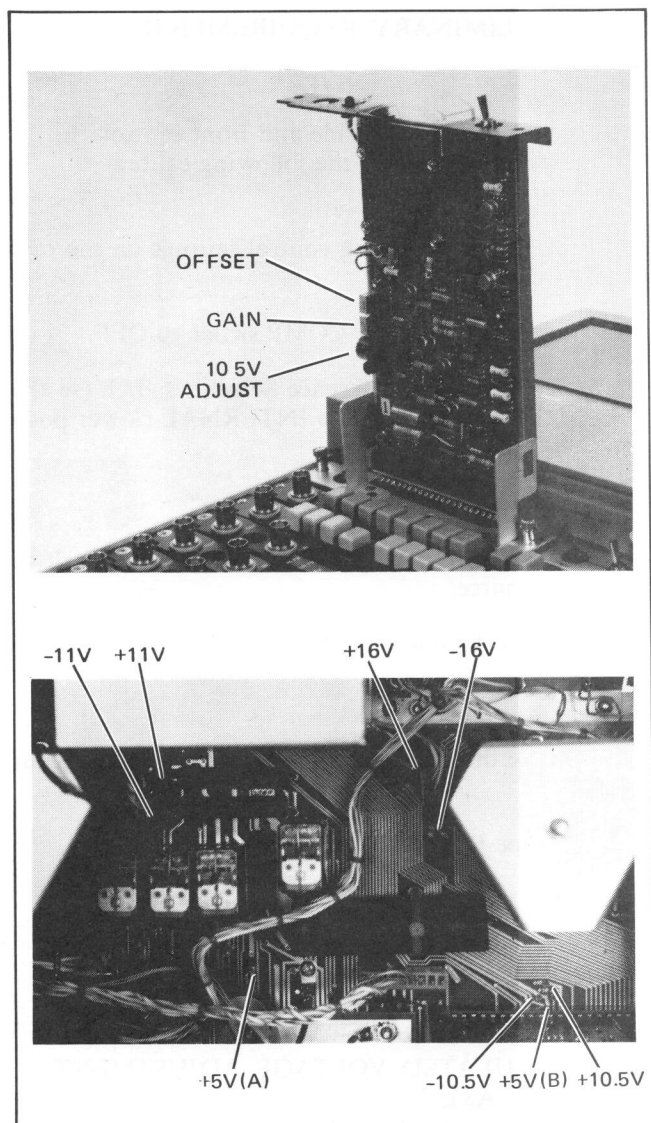

Figure 5-15. Regulated Voltage Test Points and Adjustments
b. Remove the Meter Amplifier PCA A3. Install its extender board, 03968-60960, into the machine. Plug the meter amplifier into the extender (see Figure 5-15).
g. Measure the +5A and +5B voltages at their respective test points on the Interconnect PCA (see Figure 5-15). Verify that each is within the range of +5.06V to +5.18V.
- b. Remove Meter Amplifier PCA A3 (see Figure 5-15).
l. Adjust the GAIN trimmer on Meter Amplifier PCA A3 (see Figure 5-15) for a reading of 0 dB on the lower meter scale.
o. Adjust the OFFSET trimmer on Meter Amplifier PCA A3 (see Figure 5-15) for a reading of "O" on the upper meter scale.